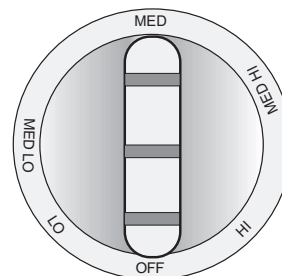

Figure 6
1. Push in and turn surface element control to desired setting. (Figure 6)